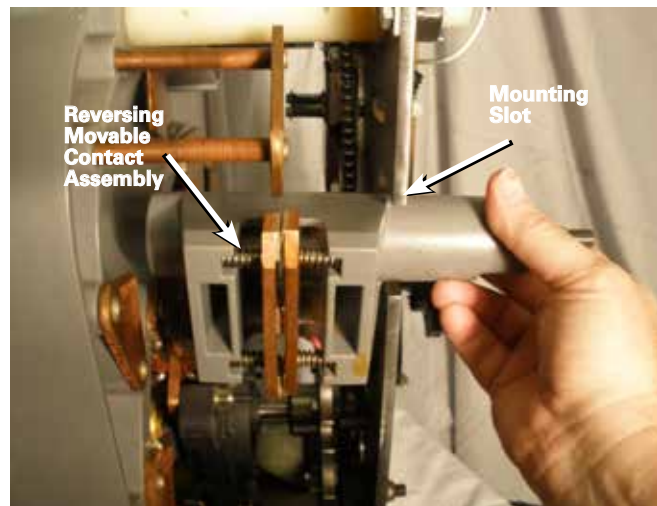

Figure 40. Reinstalling reversing movable contact.
- Place the reversing movable contact into the mounting slot in the tap-changer front panel, aligning the movable contact assembly with the reversing neutral stationary contact. The reversing neutral stationary contact should be inserted far enough into the contact board so that the blade lines up with the center of the reversing movable contacts. See Figure 40.